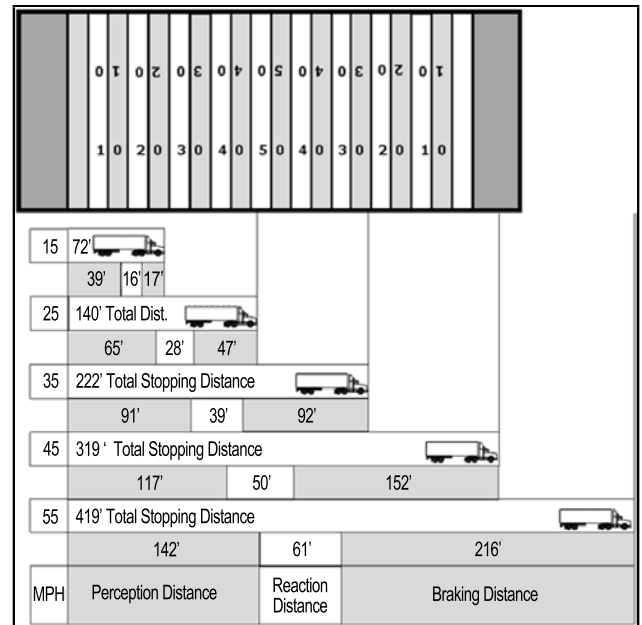

Figure 2.11
- **Total Stopping Distance.** The total minimum distance your vehicle has traveled, in ideal conditions, with everything considered, including perception distance, reaction distance and braking distance, until you can bring your vehicle to a complete stop. At 55 mph, your vehicle will travel a minimum of 419 feet. See Figure 2.11.